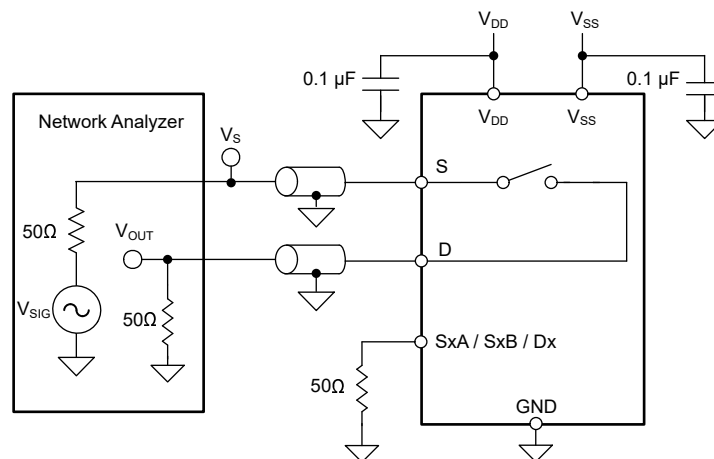

图 6-10. Off Isolation Measurement Setup
Off isolation is defined as the ratio of the signal at the drain pin (D) of the device when a signal is applied to the source pin (S_x) of an off-channel. 图 6-10 shows the setup used to measure, and the equation used to calculate off isolation.